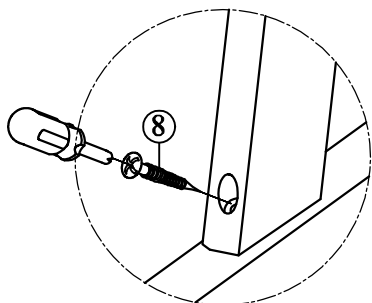

FIG. 4
STEP 4: Attach the Side Stretcher (E) & (F) to the Front Leg (C) & (D) and to the Back Rest (A) using provided hardware as shown on FIG.4.